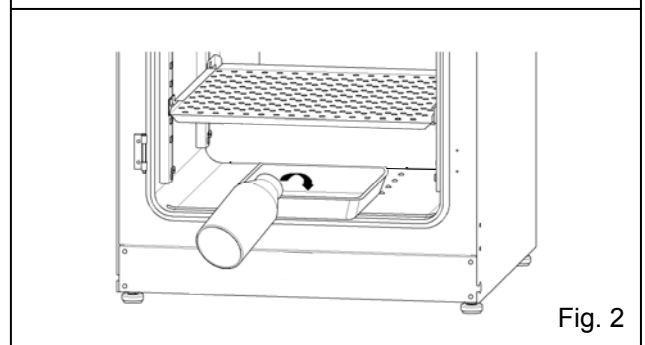

Fig. 2
4. Return the humidifying pan to the chamber and add sterile distilled water (approx. 1.5 L, preheated to 37°C). (See Fig. 2.)